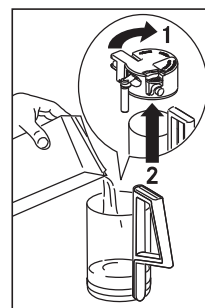

Fig. 30
- ▶ Fill the container with about 100 grams of milk for each cappuccino to be prepared (Fig. 30). Never exceed the MAX level (corresponding to about 750 ml) marked on the container. You should ideally use skimmed or semi-skimmed milk at refrigerator temperature (about 5°C).